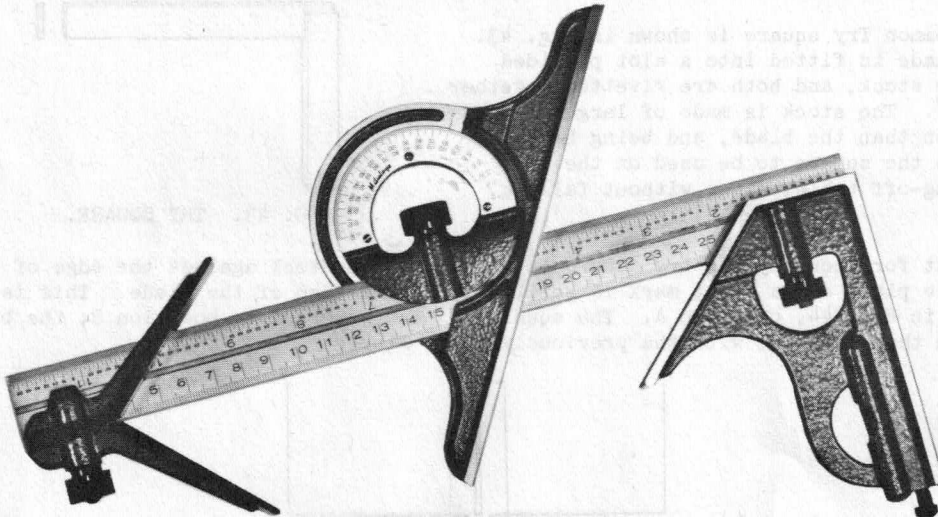

FIG. 46. THE COMBINATION SQUARE SET.
5.16 COMBINATION SQUARE (FIG. 46). This is widely used for lay-out work. The stock or head can be moved along the steel blade and clamped in any desired position. It can be used as a square to check angles of 45° and 90° , as a depth gauge, and also for marking off lines. By setting the end of the steel rule flush with the head, it may be used as a height gauge.